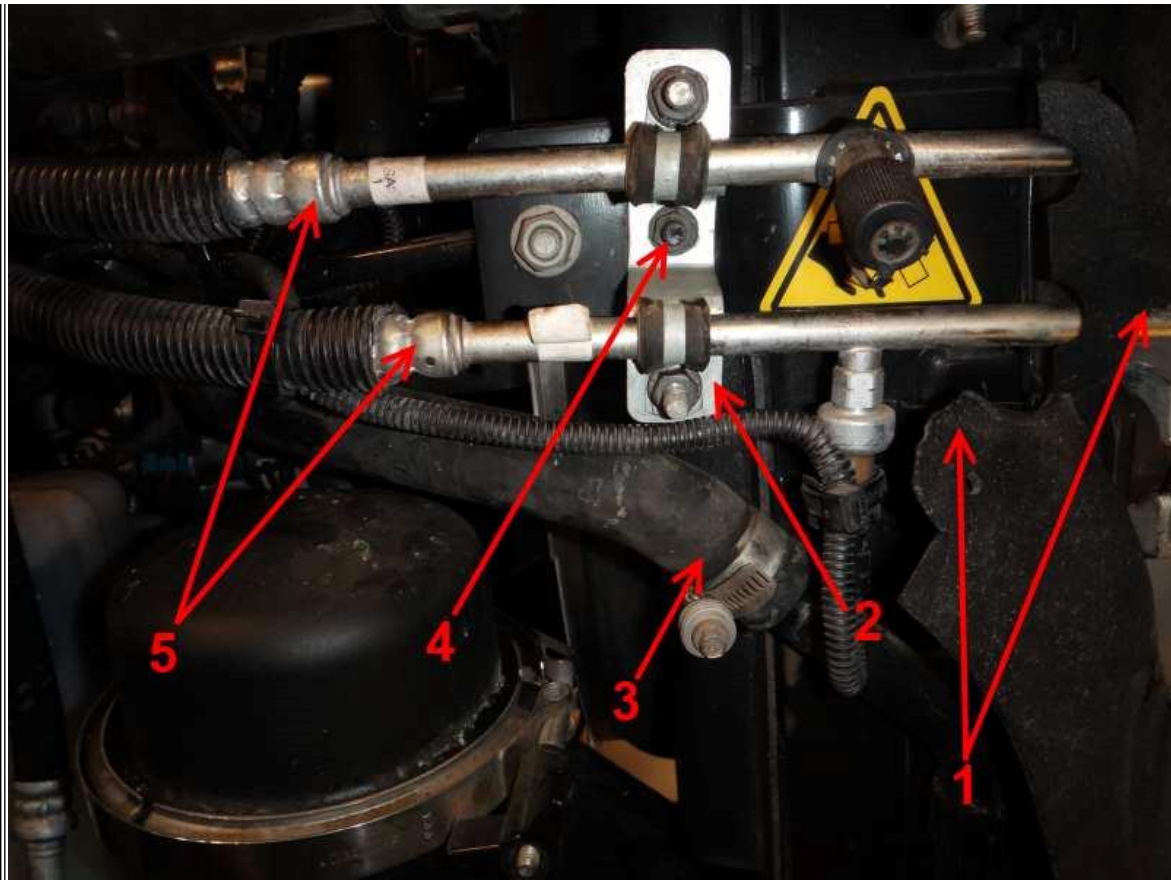

Figure 25: A/C Line Bracket
23. Attach the LTR hose and tighten the clamp (**Figure 25**, Item 3).
24. Install the A/C line bracket and torque the nut to 15 lb-ft (20 N-m) (**Figure 25**, Item 4).